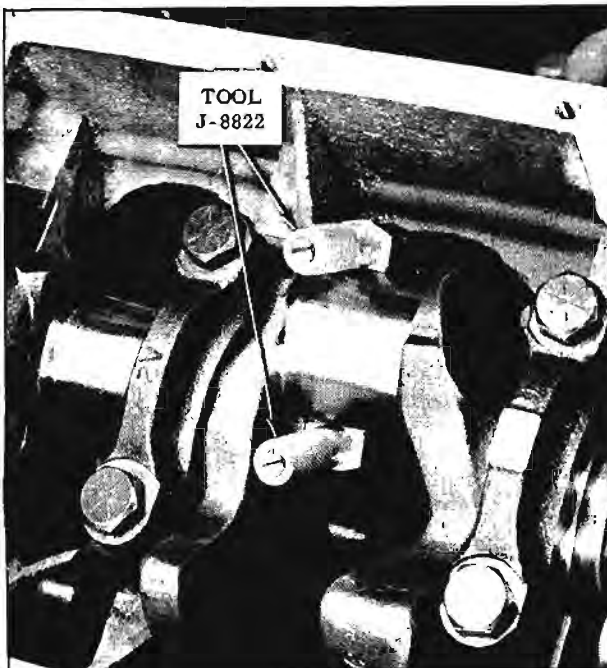

Fig. 8-124 Connecting Rod Bolt Guides
5. Install guide Tool BT-8822 over threads of rod bolts. This is to prevent damage to bearing journal and rod bolt threads. (Fig. 8-124)
1. Install connecting rod bolt guide Tool BT-8822 over rod bolt threads. (Fig. 8-124)